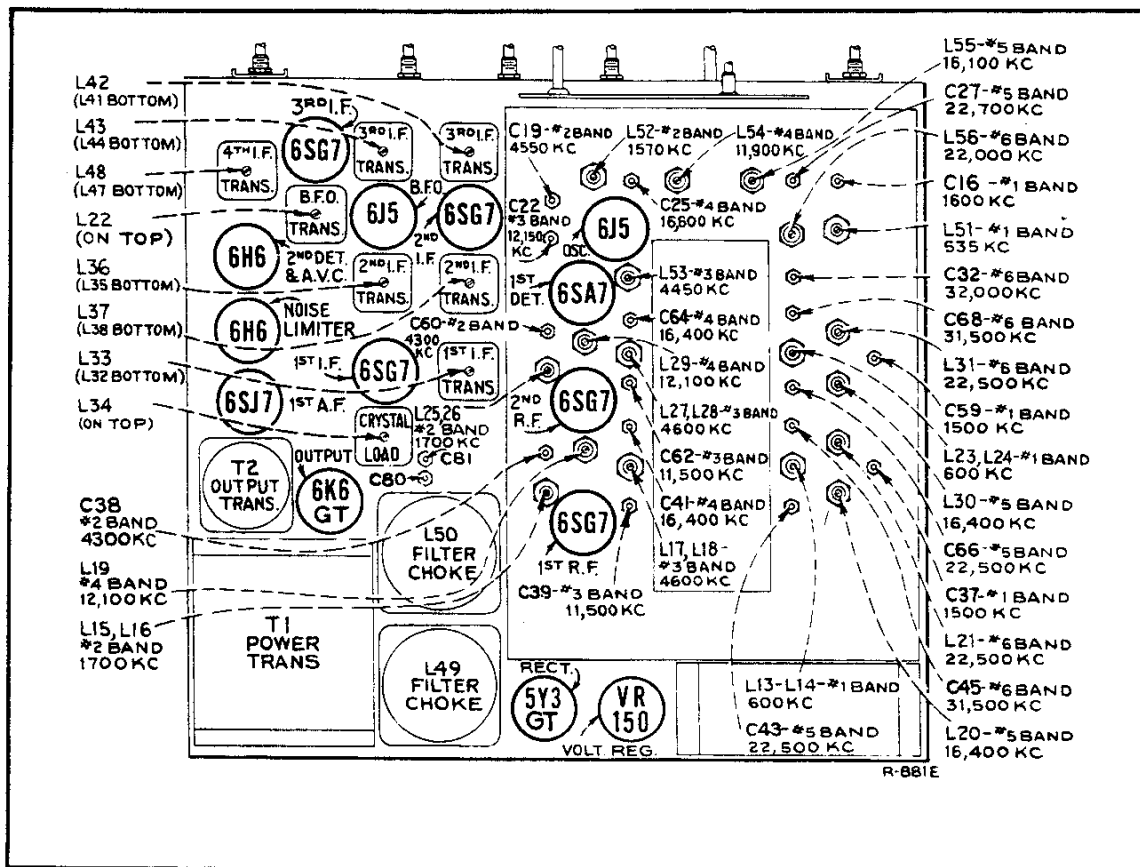

Figure 4—Diagram of Top of Chassis
- (b) Place the Selectivity Switch in Position 4. Rock the signal generator frequency and adjust trimmer C81 for symmetrical curve. (Fig. 4.)
- (c) Place the Selectivity Switch in Position 5. Adjust Trimmer C80, rocking the signal generator as in (a) and (b). (Fig. 4.)